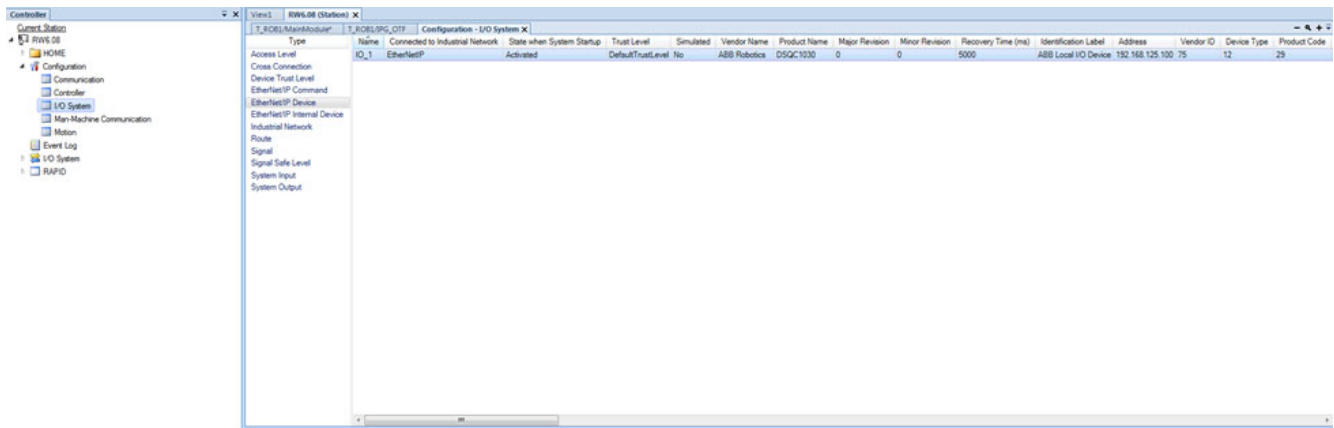

Figure 225: Ethernet/IP Device Configuration
- b. Go to the Ethernet/IP Device configuration under I/O System configuration. See Figure 225 (below).